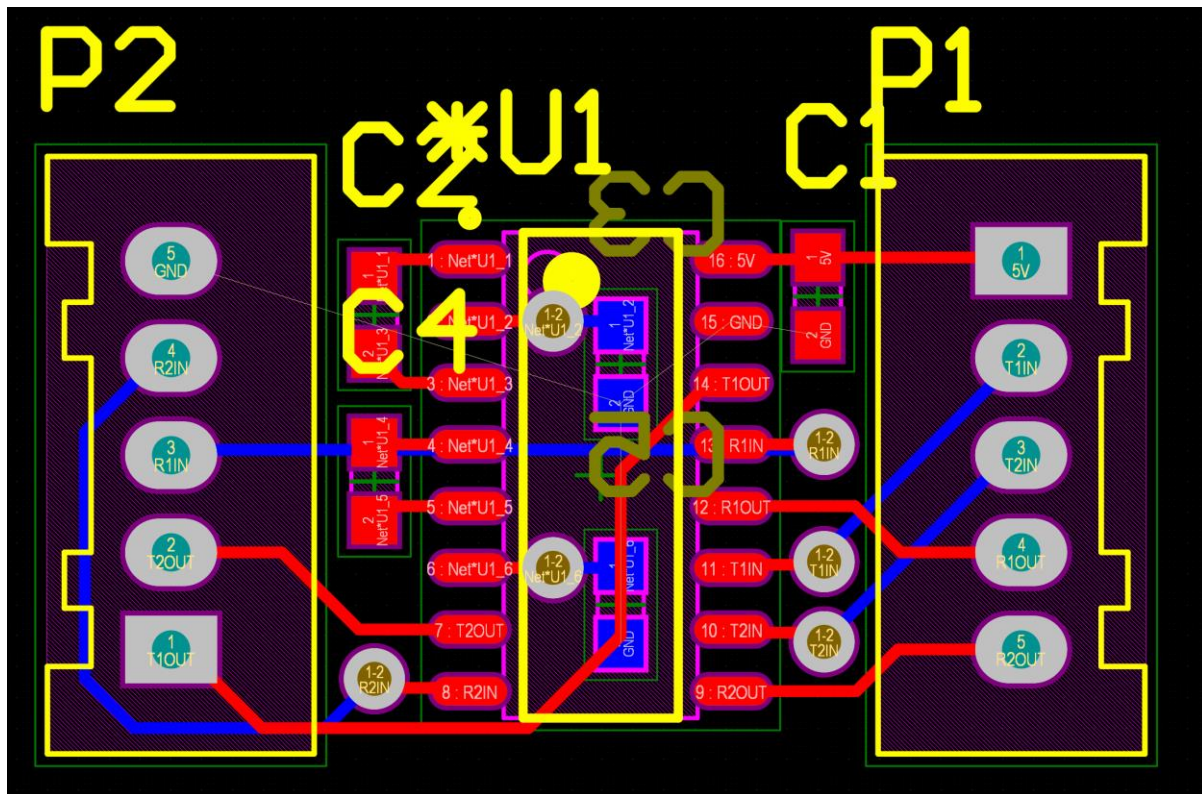

Figure 20: Full Trace View of Current PCB Layout
33. If you did it right, you should have a layout similar to Figure 20.